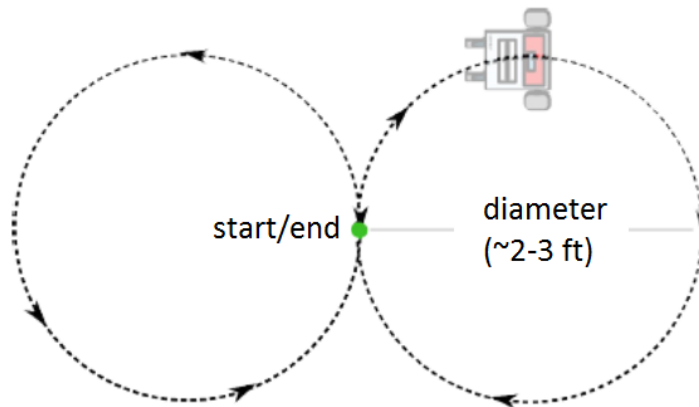

Figure 9: Figure Eight Robot Motion
3. Finally, modify the “Circle” program to create a “FigureEight” program to move the robot in a figure eight using two circles (see Figure 9).